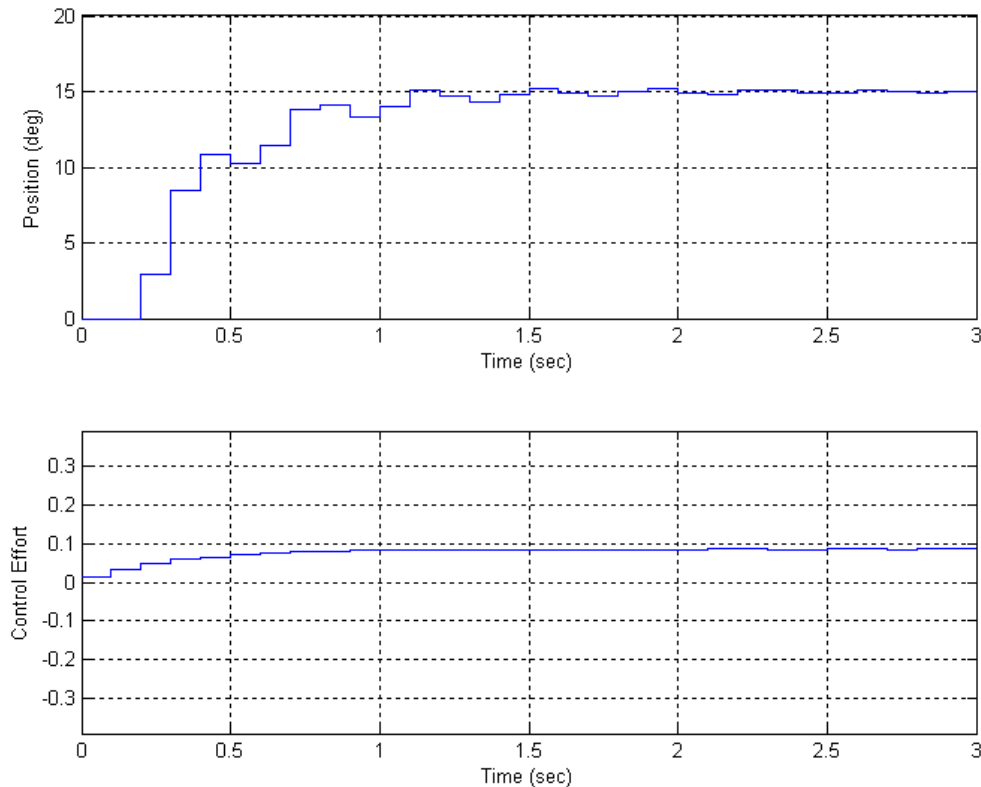

Figure 1: Matlab/Simulink results for PI controller.
- Run **DT_PID_driver.m** and print out the picture and attach it to this homework. It should look like Figure 1.